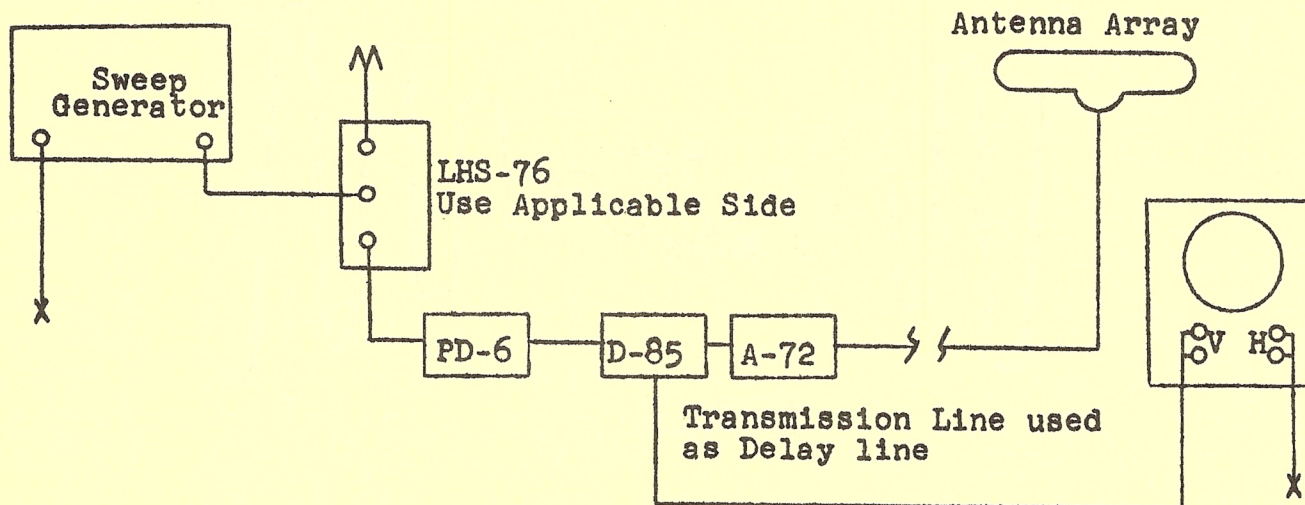

Figure 5 - Measuring Antenna VSWR
6. The delay line technique is also very convenient for checking antenna arrays, using the transmission line itself as the delay line (see Figure 5). Here, the open circuit reference is established with the A-72 unterminated. Then the transmission line, terminated by the antenna, is connected to the A-72 and the scope deflection observed over the desired bandwidth. The transmission line is removed and attenuation is inserted in A-72 until standing wave returns to previous level (established with antenna terminated over desired frequency band). The transmission line loss should be subtracted from the A-72 reading to obtain "reflection db down". Refer to chart for VSWR of antenna.